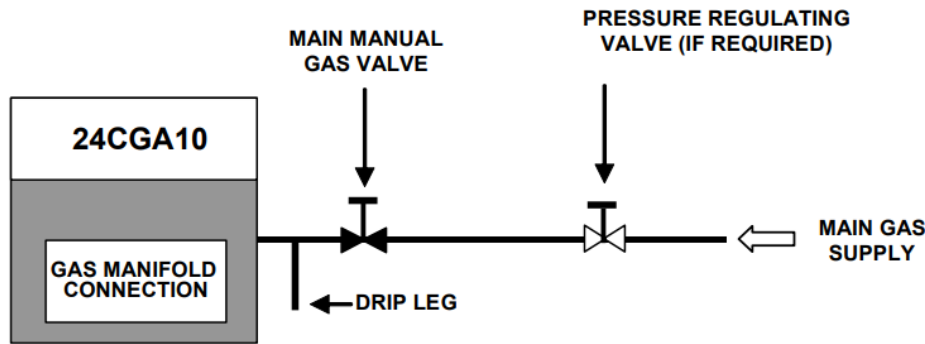

Figure 3-2
- e. Install a sediment trap (drip leg) in gas supply line. See Figure 3-2.